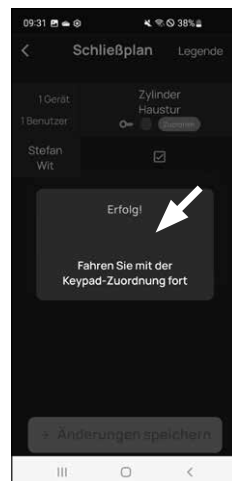

Fig. 6
⑦ The data will be transferred. A confirmation will appear after a brief moment and at the same time a request to now assign the keypad. Tap on the confirmation message (Fig. 6).